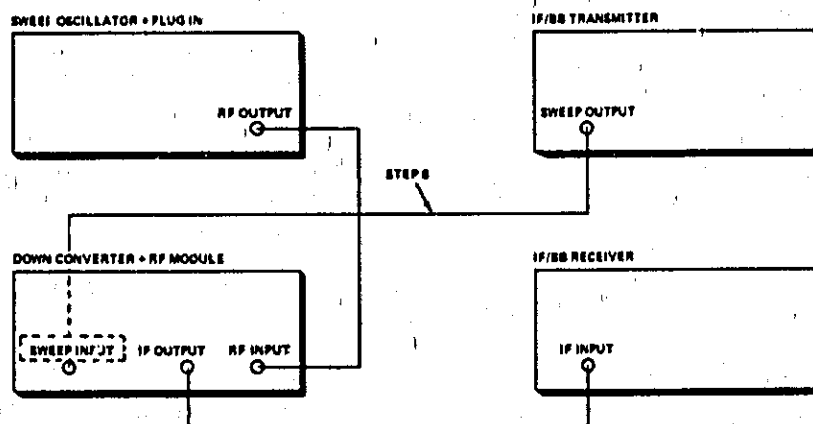

Figure 4-1 Preliminary Procedure Test Equipment Connection
4. Connect the test equipment as shown in Figure 4-1.
One of the requirements to make a measurement of the residual response is a constant input level at the DOWN CONVERTER RF MODULE RF INPUT. Instead of sweeping the SWEEP oscillator (see Figure 4-1) the sweep is applied to the YIG OSCILLATOR in the RF MODULE via the 3730B rear panel SWEEP INPUT. The RF INPUT from the SWEEP OSCILLATOR is a good approximation of the constant level required as it contains only the BB Frequency modulation. As the SWEEP GENERATOR is not swept it is also eliminated as a source of residual errors.